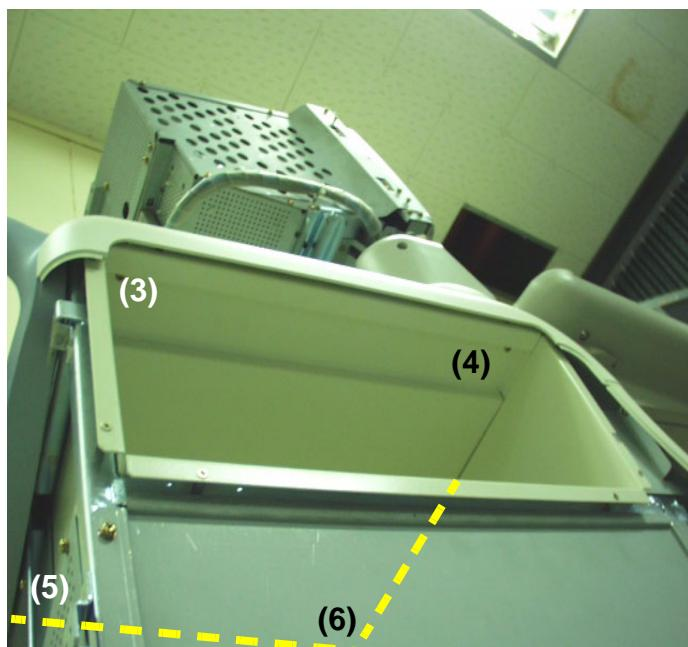

Figure 8-48 Unscrew 4 screws from the bottom
- 5.) Unscrew four screws (3-6) from the bottom of the Top cover. Refer to Figure 8-48.